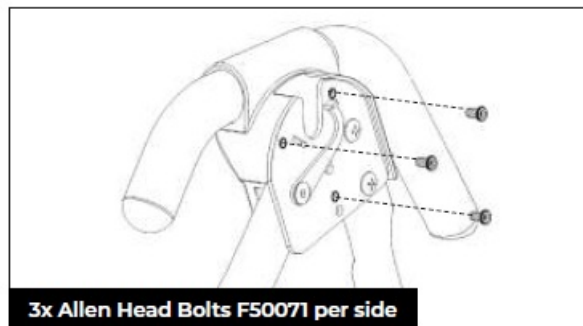

Figure 3
- Figure 3: Insert and loosely hand-tighten three of the Allen Head Bolts through the Hinge Plate into the handle.